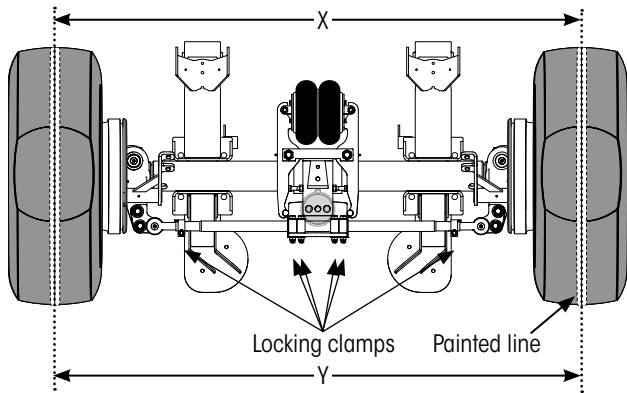

Figure 30: Toe Measurements (bottom view)
3. While rotating wheel, **paint** a line around the center of the tire tread, full circle (Figure 30).
10. **Loosen** all tie rod end clamps Figure 30. Skip this step if already loose.
4. **Verify** $R1 = R2 \pm .09$ inches (± 2.3 mm) (FIGURE 30: TOE MEASUREMENTS (BOTTOM VIEW) on page 23. **Tighten** tie rod bracket clamp bolts (Figure 32) to 95 ± 5 ft. lbs. (130 ± 5 Nm) of torque.